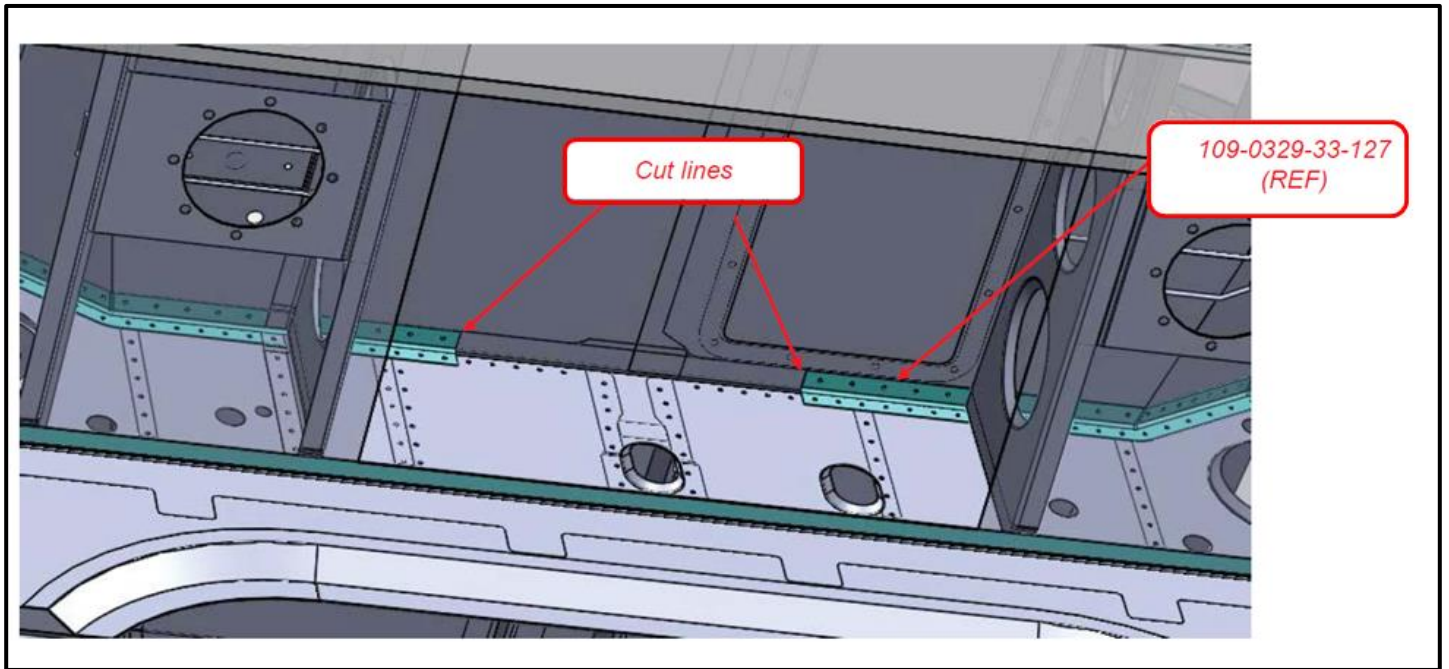

Figure 5 - Beam Assy STA4010.0 to STA4460.0 – Replacement procedures
8. Cut and remove center section of upper angle 109-0329-33-107 as shown in Figure 5.